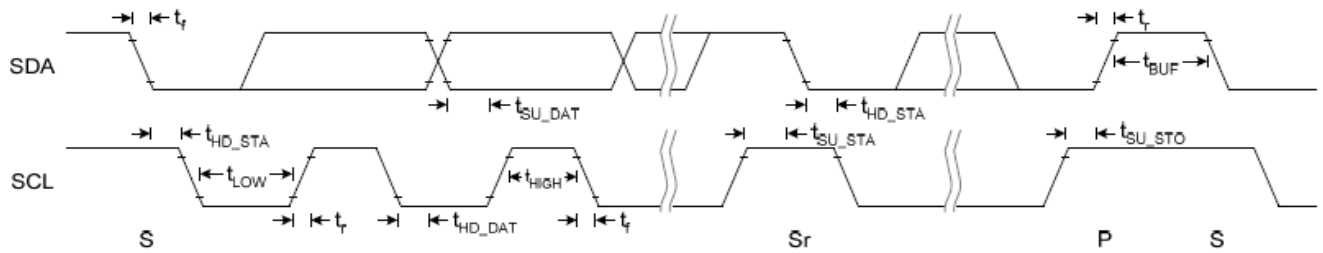

Figure4-1 I2C Waveform
4.1 Figure4-1 is the waveform of I2C fast mode timing